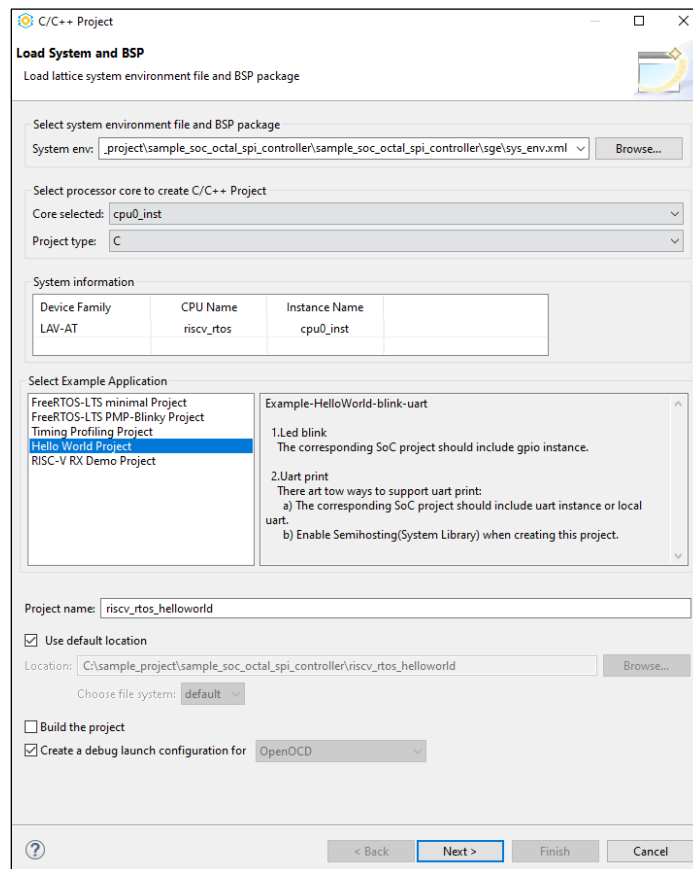

Figure 6.7. C/C++ Project Load System and BSP
3. Generate a new Lattice C/C++ project by selecting **File > New > Lattice C/C++ Project**. The **C/C++ Project Load System and BSP** window opens as shown in Figure 6.7. For this example design, select the Hello World Project template.